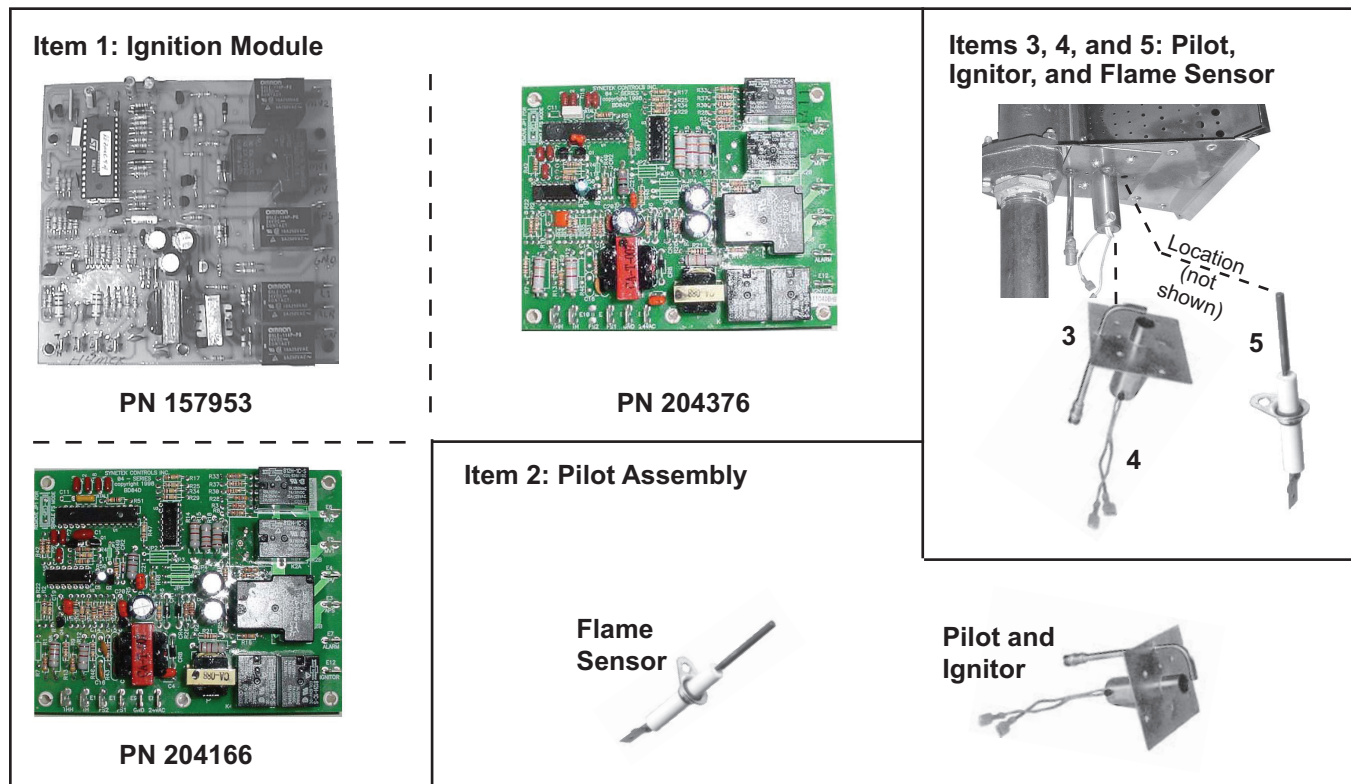

Figure 10. Hot Surface Ignition System Components—Units Manufactured *After* FEB 1996
- Hot surface ignition components are listed in Table 18 and shown in Figure 10.